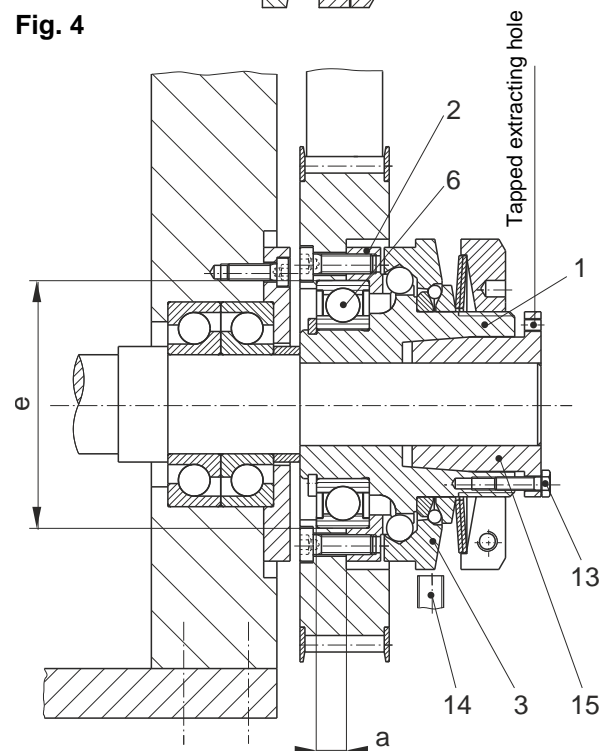

Fig. 5
**In order to prevent the output element (pressure flange (2)) from moving axially in the direction of the thrust washer (3) during overload, please make sure that the bearing of the output element is designed as a locating bearing (Fig. 5).**